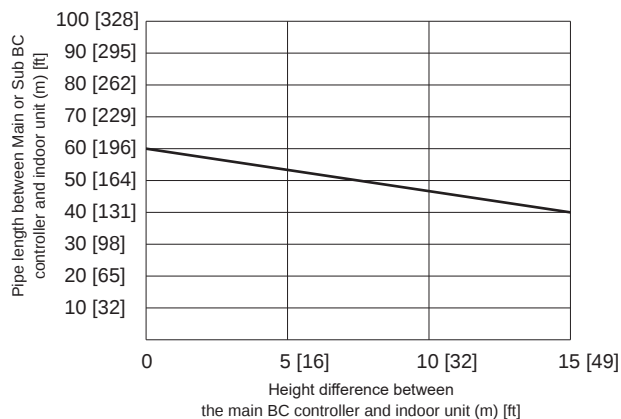

Fig.1
*2 Refer to Fig. 1. (However, when P72 or P96 model of indoor unit is connected, the maximum allowable distance between BC controller and farthest indoor unit is 40 m [131 ft].)
*3 When the piping length or the height difference exceeds the restriction specified in Fig. 1, connect a sub BC controller to the system. The restriction for a system with a sub BC controller is shown in Fig. 2. When a given system configuration falls within the shaded area in Fig. 2, increase the size of the high-pressure pipe and the liquid pipe between the main and sub BC controller by one size. When using P12, P15, P18, P36, or P48 model of indoor units, increase the size of the liquid branch pipe between the sub BC controller and indoor unit by one size. When using P54 or larger model of indoor units, the restriction shown in Fig. 1 cannot be exceeded.
*12 Sub BC controller cannot be used at (B).
***3** When the piping length or the height difference exceeds the restriction specified in Fig. 1, connect a sub BC controller to the system. The restriction for a system with a sub BC controller is shown in Fig. 2. When a given system configuration falls within the shaded area in Fig. 2, increase the size of the high-pressure pipe and the liquid pipe between the main and sub BC controller by one size. When using P12, P15, P18, P36, or P48 model of indoor units, increase the size of the liquid branch pipe between the sub BC controller and indoor unit by one size. When using P54 or larger model of indoor units, the restriction shown in Fig. 1 cannot be exceeded.